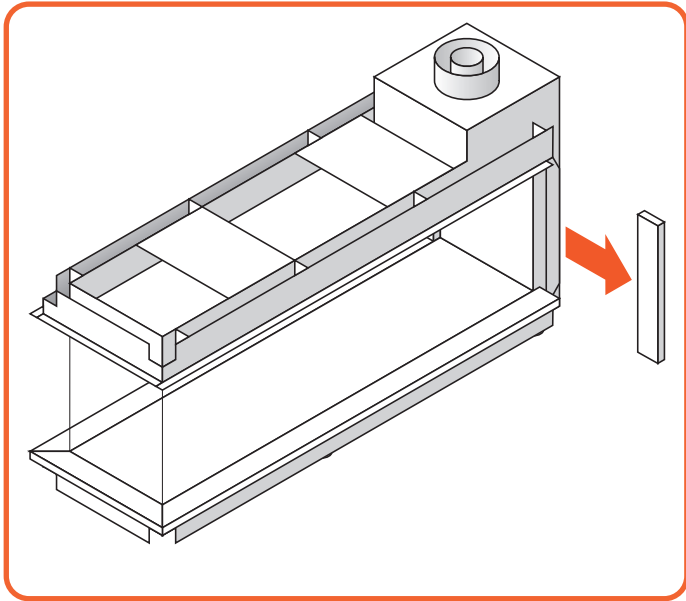
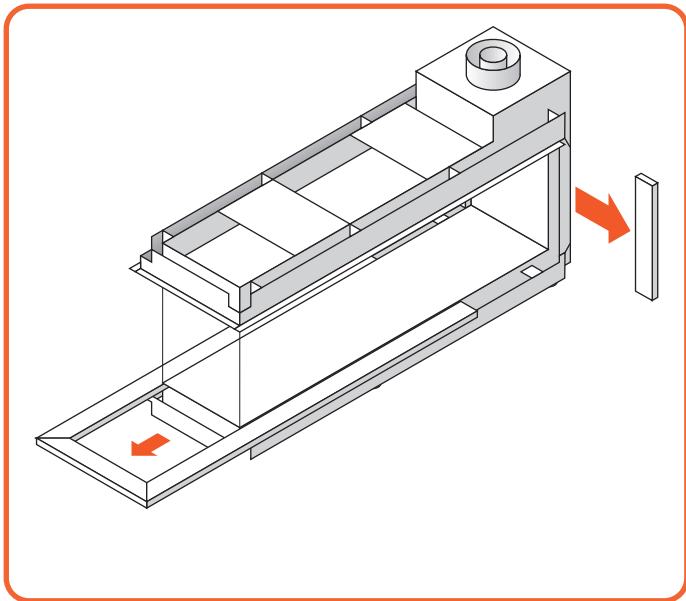

Figure 9.9 | Remove side trims
Figure 9.10 | Remove bottom trim
- Remove both the side trims and bottom trim. They are held by magnet snappers, Figure 9.9 & Figure 9.10.